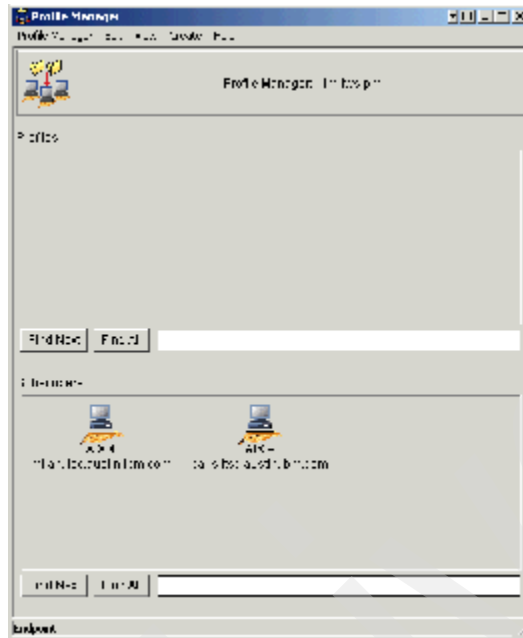

Figure 9-25 Endpoints added as subscribers to a profile manager
4. Click **Set Subscriptions & Close**. The endpoint objects are added to the Subscribers area of the profile manager as shown in Figure 9-25 on page 450.